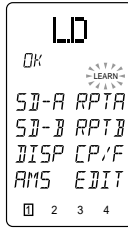

Figure 2
3. Press the **LD** function button ⑨ on the RC2000 Mk II
4. Press the **PLAY** button ⑮ on the RC2000 Mk II.
- Press and hold the corresponding **PLAY** button on the laser disc player's remote transmitter until the "OK" indicator appears in the RC2000 Mk II LCD window (see Figure 2). If the audible indicator is toggled on, you will hear a beep at this point.